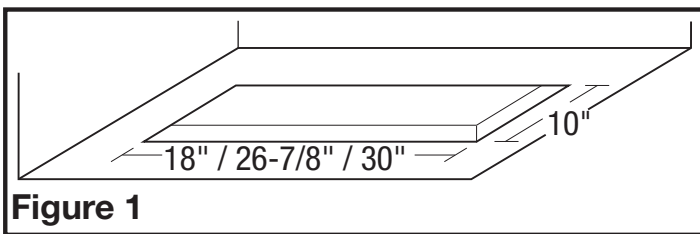

Figure 1
1. Most building codes require noncombustible material above the cooking surface. If you have wood or some other combustible material on the bottom of your cabinets it is recommended that you use the optional hood liner (See **Section 3**) If you have noncombustible material cut an appropriate size hole into the cabinet or canopy the power unit will be mounted into (**Figure 1**):